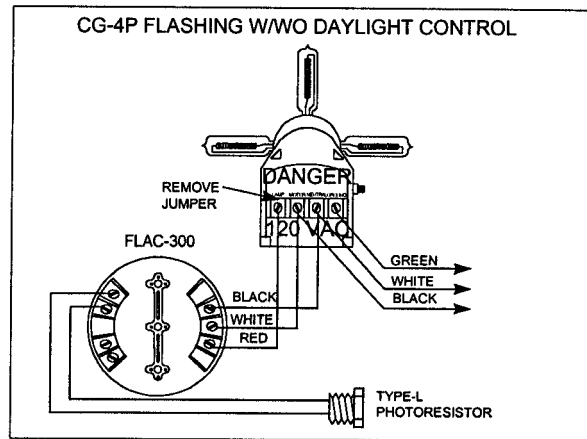

Figure 2-6
- o. If flashed, install a FLAC-300 and type-L daylight control, as shown in Figure 2-6.